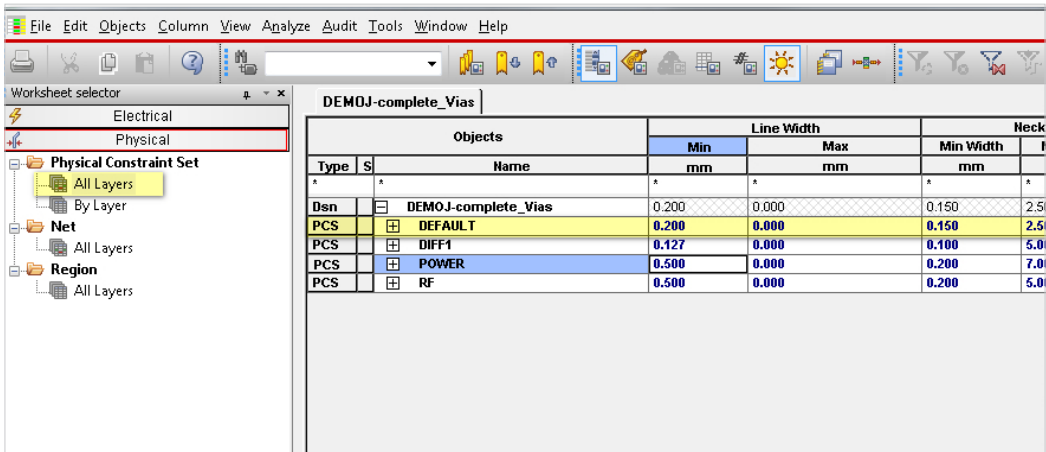

Fig. 18.1 - The Physical rule type in Constraint Manager
- 1. A Constraint Set is created in each rule group (domain). The Default Constraint Set targets all design nets. You can create additional sets as required (Fig. 18.1).